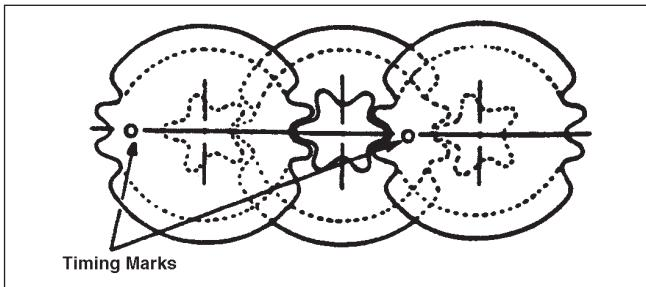

Figure 2 - Twin Gear Timing Marks
1. The twin gears each have an "O" stamped on them which is used as a timing mark. The twin gears must be installed so that the timing marks both point to exactly the 9 o'clock position at the same time (See Figure 2).